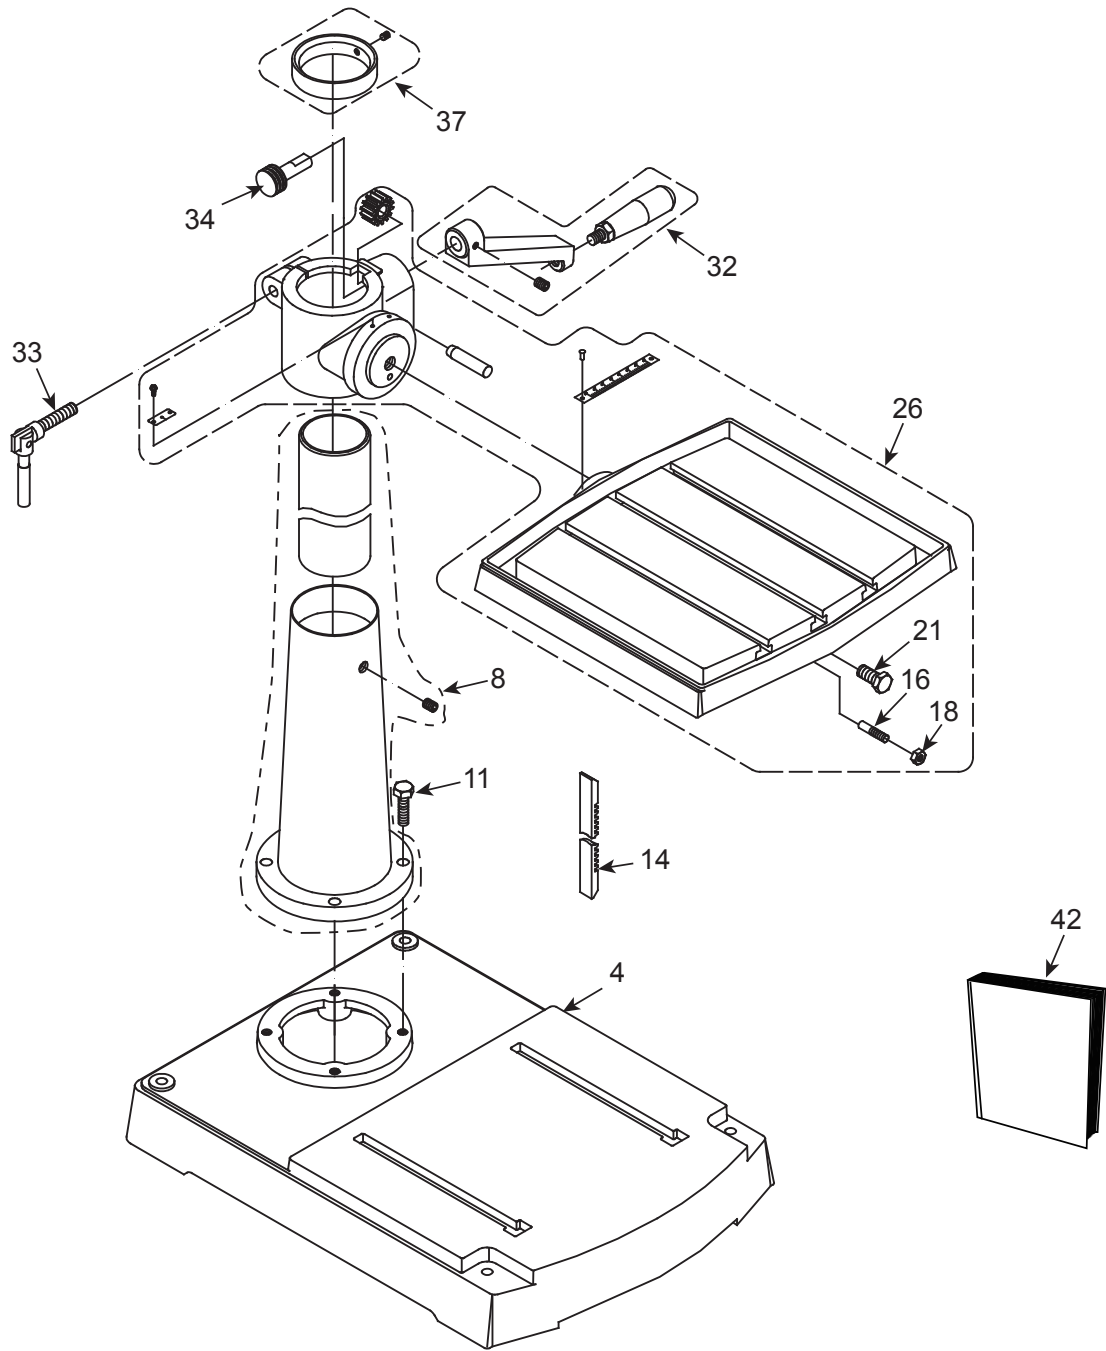

Figure 7 - Replacement Parts Illustration for Base (Single & Three Phase)
Refer to Figure 7.
Refer to Figures 7 and 8.
- Apply lubricant to rack and pinion gear (Figure 7, Ref. Nos. 14 & 34) on column and table assembly.